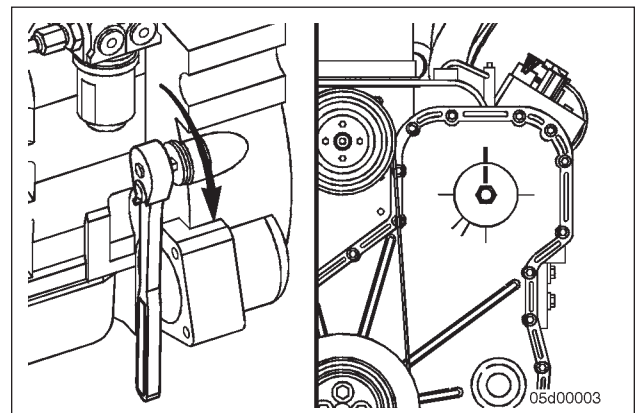

FIG. 2
2. Using the barring tool, Part No. 3824591, rotate the crankshaft to align the mark on the fuel pump gear with the top dead center mark on the gear cover (Fig. 2).